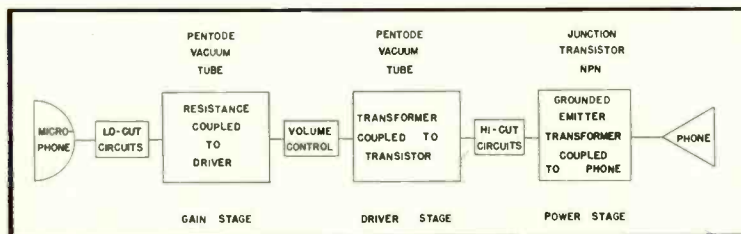
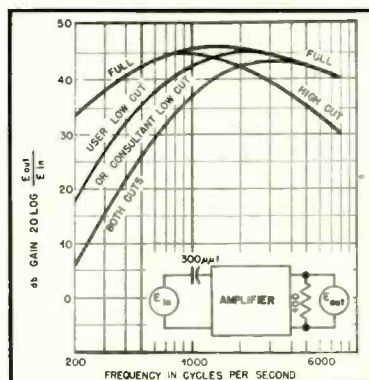
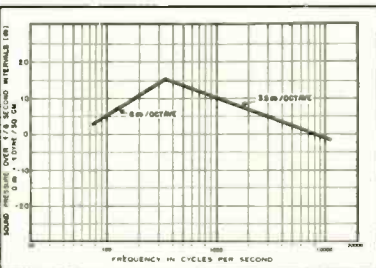
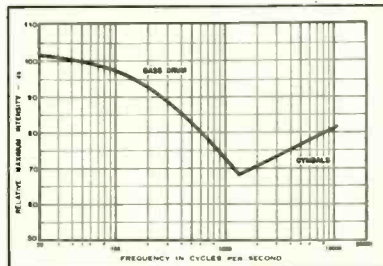

Fig. 5. Block schematic of the 1010 hearing aid.
Fig. 8. Frequency response of the amplifier for various positions of the fitting controls.
Fig. 6. Curve showing peak speech energy vs. frequency.
Fig. 7. Relative energy curves for bass drum and cymbals. Compare with Fig. 6.
Figure 5 is a block diagram of the 1010. Since the amplifier is used to couple the transducers, the requirements of the amplifier will become clear after examining the properties of the transducers.
A variety of receivers with different frequency response is available from which the qualified consultant may fit the one best suited to the needs of the hard of hearing individual. One of these receivers, type 8080, is shown in the upper part of Fig. 3. It is only $\frac{5}{8}$ in. in diameter and $\frac{5}{16}$ in. thick, small enough to be concealed within the ear. Yet it has a frequency response which extends close to 4000 cps and can produce a sound pressure level of about 115 db in the ear when operating from a power source of one milliwatt capacity. Curve (A), Fig. 7, shows the frequency response of 8080 receiver, while curves (B) and (C) show the response curves of two other receivers, types U-1 and U-2, respectively. The U-1 is about four to five db more sensitive than the 8080 and its frequency response extends to 3000 cps. The U-2 is of lower sensitivity and has relatively greater high-frequency emphasis. The frequency-response curves were made using the standard 2-cc artificial ear as defined in ASA Z-24.9. All of these receivers are of the magnetic type. A concentric magnetic system embodying a cylindrical
From the previous discussion of the receiver characteristics it is clear that to develop a sound pressure level of about 120 db the amplifier should have an output of about 1 mw. Similarly in the discussion of the sensitivity of the microphone it was shown that the output of the microphone is of the order of 1 mv for conversational speech. To provide 1 mw for the receiver from 1 mv at the microphone, the voltage gain of the amplifier should be about 50 db. Figure 8 shows the electrical frequency response of the amplifier, and Fig. 9 is the circuit schematic. Reference to the block diagram, Fig. 5, will facilitate following the schematic. Starting at the output end, the transistor is connected with emitter grounded and biased to draw 3 ma of emitter current with 1.25 volts on the collector. This provides a power input of 3.75 mw to the transistor from which it is possible to get 1.5 mw into the load. The load impedance required is theoretically
Fig. 7. Response of three types of receivers used with the 1010. (A), type 8080; (B), type U-1; and (C), type U-2. All three are plotted to show relative acoustic output when coupled to a 2-cc artificial ear. Dotted curves indicate undamped response.
The input of tube V_2 is derived from the microphone through a low-frequency control circuit. The operation of the low-frequency controls may be understood more easily by reference to Fig. 10. Here e represents the open circuit voltage developed by the microphone, C_m represents the capacitance of the microphone (300 μf). The other symbols correspond to those on Fig. 9. Figure 10 shows that with the switches in the position indicated, the capacitance of the microphone, R_1 , C_1 , and R_2 constitute two stages of high-pass or low-cut networks. This provides the greatest amount of low-frequency attenuation. When the upper switch is moved from 1 to 2, one of the cascaded networks is eliminated. This provides less low-frequency attenuation. If now the switch at the lower end of R_2 is moved to the right, the full low-frequency response is available. Reference to Fig. 8 shows the effect of these controls on the low-frequency response of the amplifier. The high-frequency response modification shown in this figure is controlled by switching C_2 in or out of the circuit. It is quite remarkable that despite the inclusion of two microminiature trans-
energy vs. frequency, (Fig. 6), it can be seen that they are of the same general shape and order of magnitude. Thus, a flat recording is actually obtained over the voice-frequency range because the system can and does handle the maximum power of the voice at all frequencies. This phenomenon also explains one of the important reasons why the dictating machine cannot be used for music—the average maximum energy curve of musical instruments is quite different. For example, Fig. 7 shows the relative energy output for the drum and cymbal.
Parts layouts, mounting-hole and lead-through-hole locations can be marked directly on the aluminum pan with a pencil (Fig. 3). Small holes are punched with the ice pick (just started for metal-screw holes), and larger ones can be cut out on a compass drawn line with the punch blade of the knife (Fig. 4) or with a wood auger (Fig. 5) or the expansion bit (Fig. 6). The burr reamer will open up holes too small for the expansion bit, or in between auger sizes (Fig. 7).
Bolts can, of course, be used as with any other chassis for parts mounting, or self-tapping screws will secure socket flanges, receptacle plug wells (Fig. 8), and similar parts. Layout, cutting, and assembly of the whole chassis is the work of but a few minutes.
Right, top to bottom: Fig. 6. An expansion bit cuts the large round holes. Fig. 7. An ordinary reamer can be used to enlarge holes to odd sizes. Fig. 8. Self-tapping screws are used to secure sockets, plug-wells, and similar parts. Fig. 9. Typical unit construction—a magnetic recording unit with oscillator in foreground, power amplifier, record-playback amplifier, and power supply left to right in the rear.